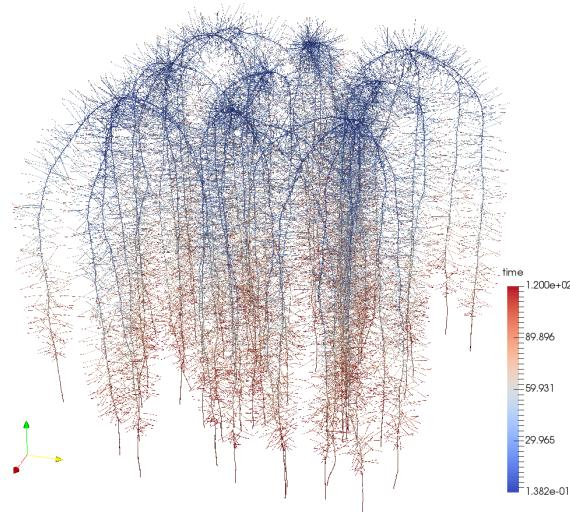

Figure 3: Multiple root systems, colors denote the creation time of the root segments
- 29-36 Saves each root systems, and additionally, saves all root systems into a single file. Therefore, we create an SegmentAnalyser (see Section 2) object in L29 and merge all segments into it L33, and finally export the single file L36. The resulting geometry is shown in Figure 3.